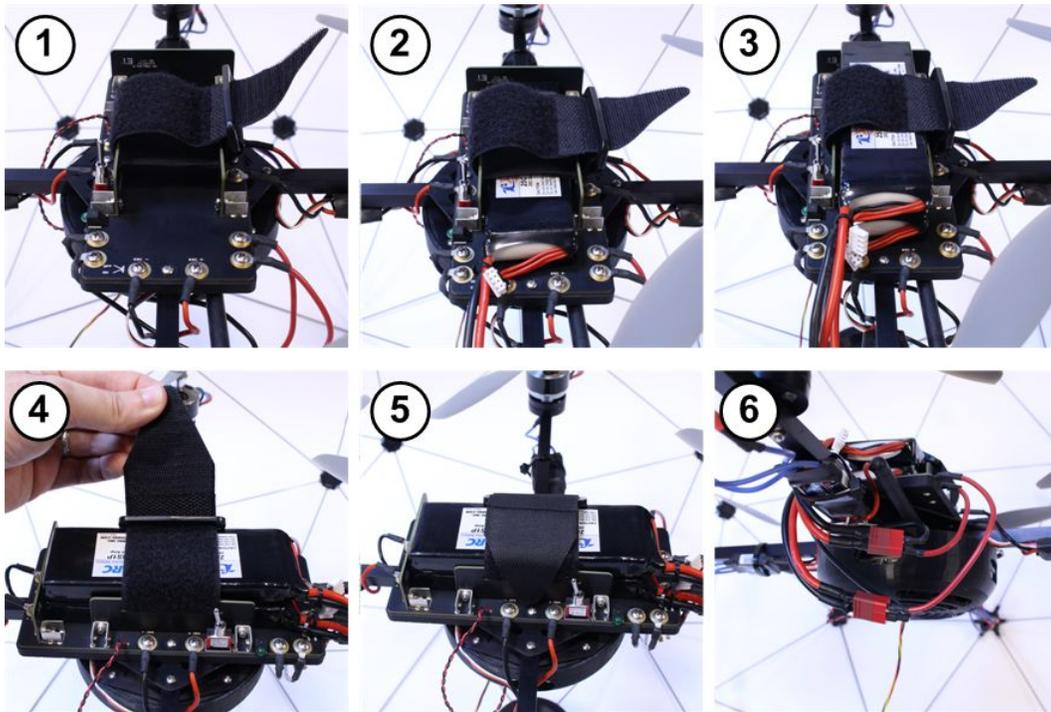

Figure 6.1: Battery connection procedure
3. Install the batteries as illustrated in Figure 6.1. With the power switch in the off position, insert the batteries into the battery compartment on top of the power distribution board, making sure the batteries rest against the far wall of the compartment. Secure the batteries in place using the velcro strap. Connect the batteries to the power board battery connectors.